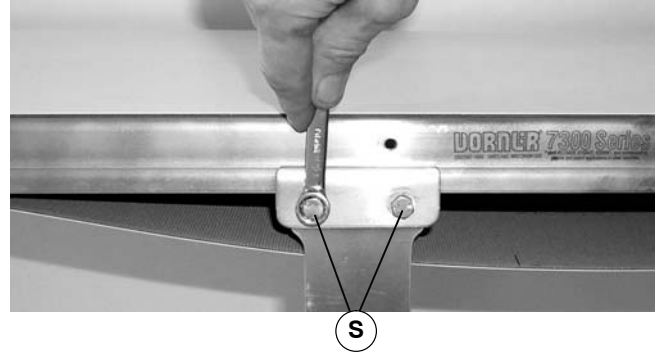

Figure 27
3. Loosen two clamp plate screws (S of Figure 27) on side of conveyor opposite drive motor.
- Tighten two clamp plate screws (S of Figure 27)